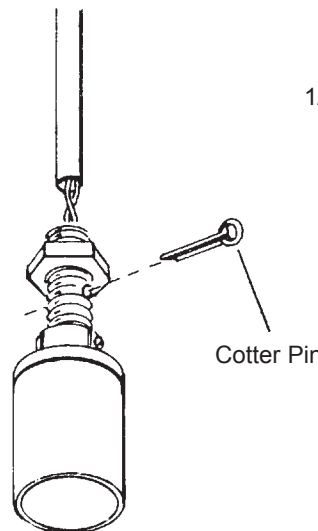

FIG. 2
4. Remove cotter pin and pull socket assembly clear of the stem. (Fig. 2)